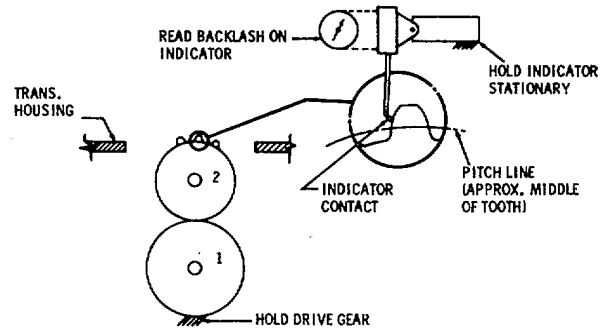

Figure 15-31. Determining PTO Drive-Gear Backlash
DETERMINING BACKLASH BETWEEN DRIVE AND DRIVEN GEAR (QUANTITY A) (Figure 15-31). When instructions are not immediately available from the vehicle manufacturer, the following method is suggested for determining the proper backlash.
2. Move gear 2 (transmission driven gear) in both directions. Measure the backlash with an indicator as shown in Figure 15-31. This is quantity A.
Move the output shaft in both directions and measure the backlash using an indicator as shown in Figures 15-31 and 15-32. This is quantity C.